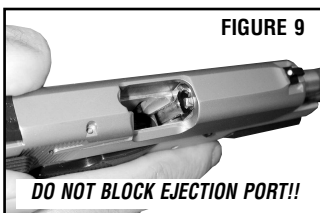

FIGURE 9
- When you inspect your pistol, you should first check for yourself to ensure that it is unloaded. To do this, grasp the pistol with your finger off the trigger and outside the trigger guard and point the muzzle in a safe direction (Figure 9). Depress the magazine release, and remove the magazine.
- Point the muzzle in a safe direction, grasp the serrated sides of the slide from the rear with the thumb and fingers as shown in Figure 9, and briskly draw the slide fully rearward to extract any cartridge from the barrel chamber. Do not obstruct the ejection port because doing so can interfere with ejection of a cartridge.